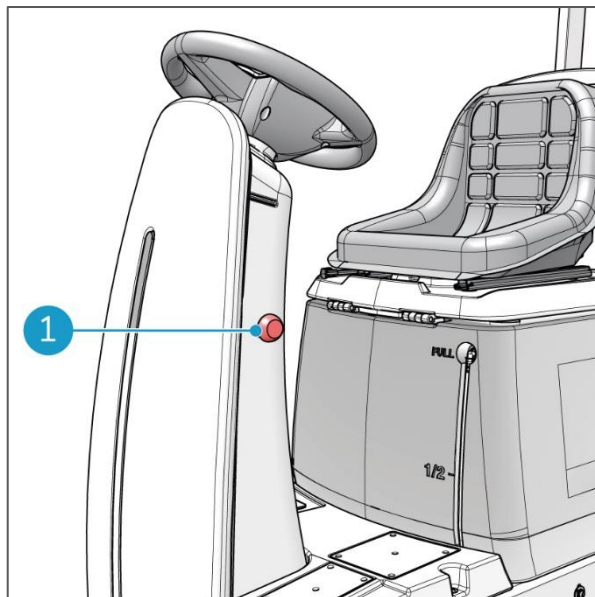

Figure 29
In case of an emergency, push the emergency stop button (Figure 29, pos 1). It shuts down the machine completely. See section 2.3.1.